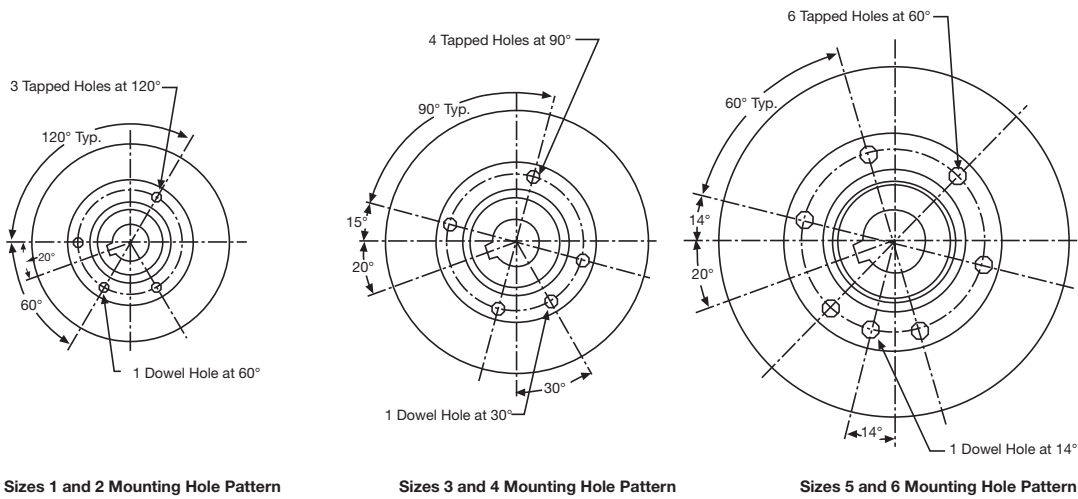

Figure 7 - Type "T" Standard Mounting Hole Patterns
A. Type “T” Housing (Refer to Figure 7)